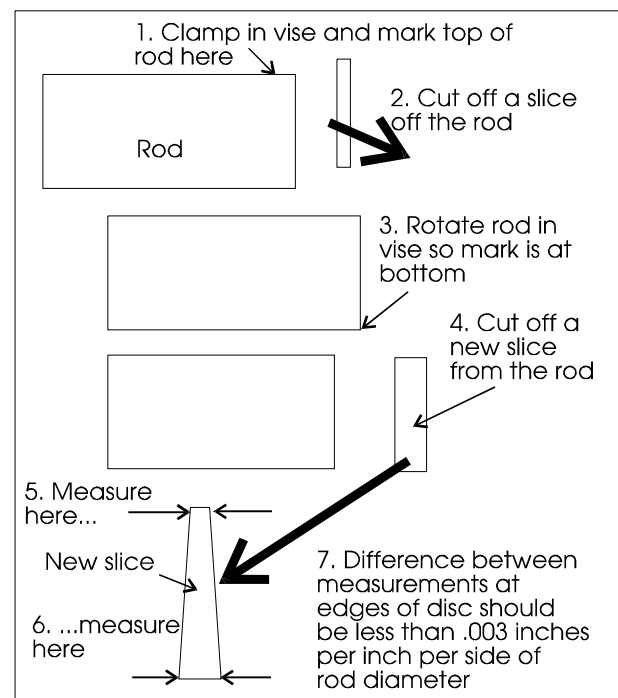

Figure 14: Step-by-step method to produce a test disc which can be measured for "wedge" - a measurement for testing cutting accuracy.
1. With the bar stock securely clamped in the vise, make a cut through the bar stock. (See *Figure 14*.)